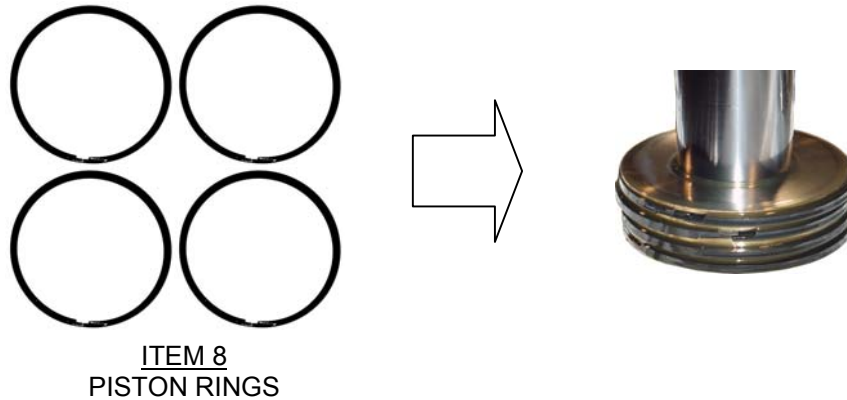

FIGURE 15
To install the (4) new piston rings (Item 8) fill the two center grooves on the piston first. Make sure splits are opposed. See Figure 15.